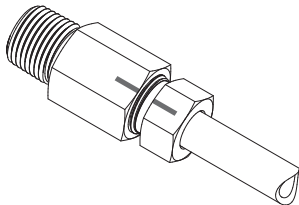

Fig.3
3. Mark the nut and the fitting body or the valve (Fig. 3).